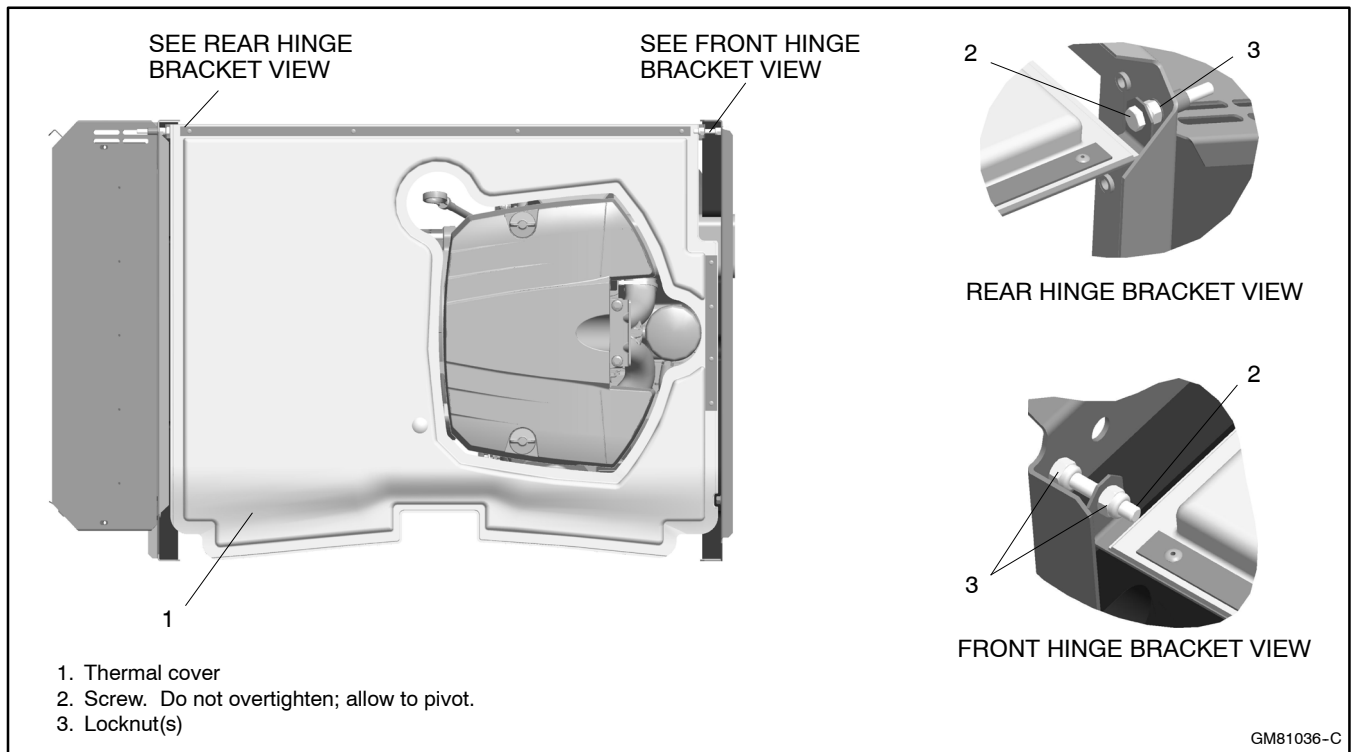

Figure 6-4 Thermal Cover (revised design)
5. Revised design with thermal cover, see Figure 6-4. Remove the thermal cover: